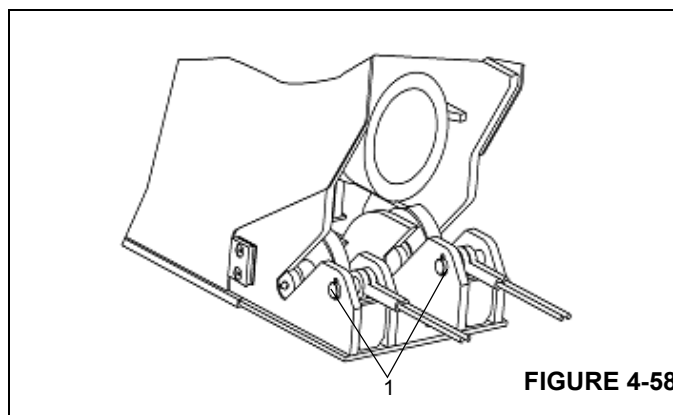

FIGURE 4-58
- Lubricate and install pin through cable ends. Secure pin (1) (Figure 4-58) with cotter keys.